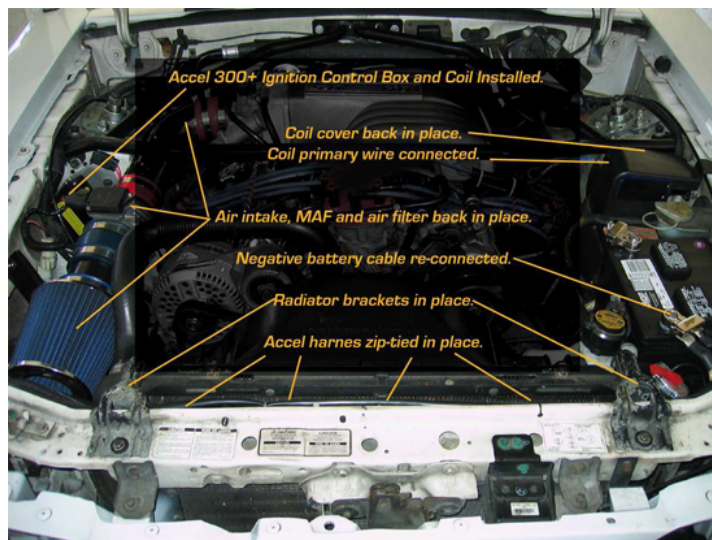

Fig9a
20. Remove all tools and loose parts from the engine compartment area. – Look again just to be sure. (See: Fig9a)